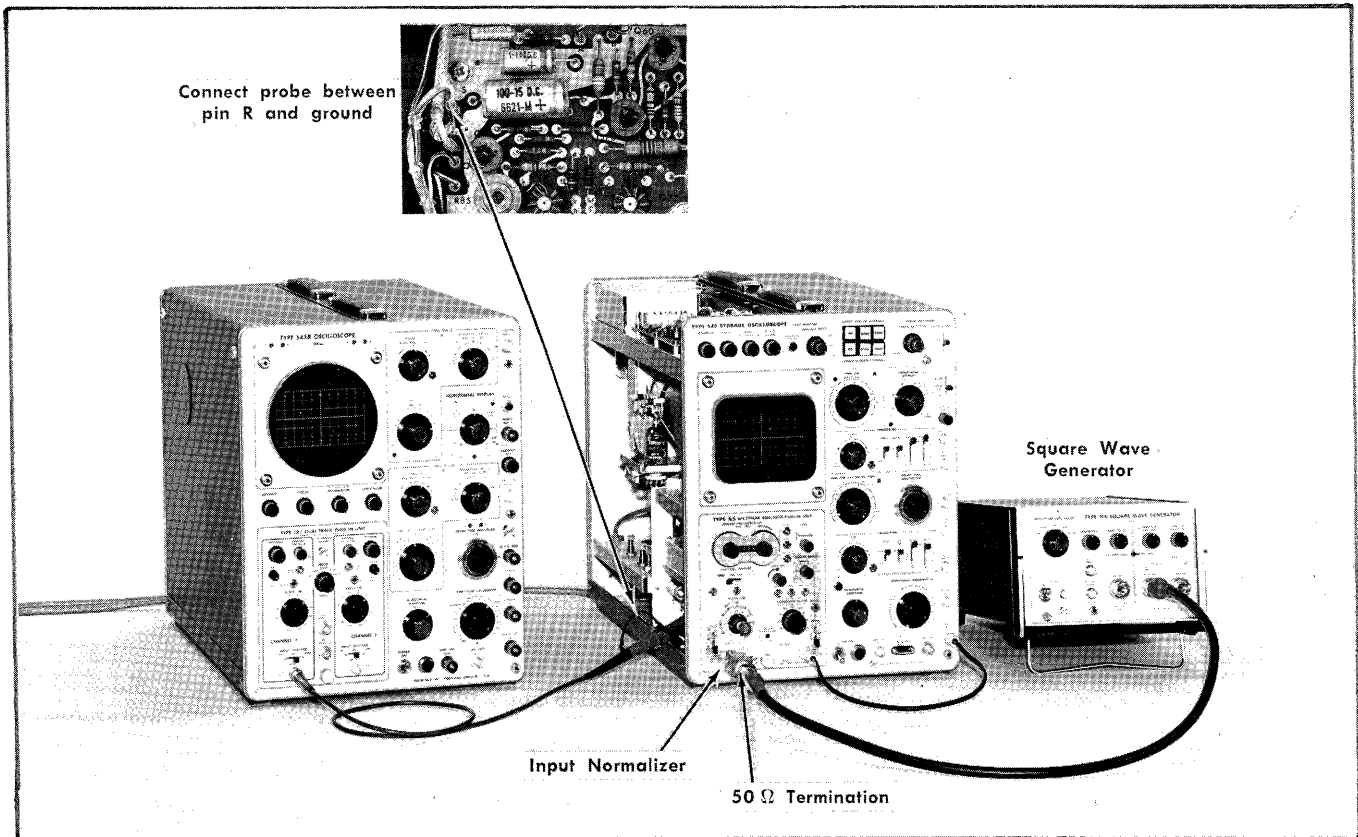

Fig. 6-16. Equipment setup for attenuator (VOLTS/CM) compensation adjustments.
- a. Equipment setup is shown in Fig. 6-16.
- b. Connect a properly compensated 10× probe from the test oscilloscope, between pin R and ground of the Input Amplifier board. See Fig. 6-16.